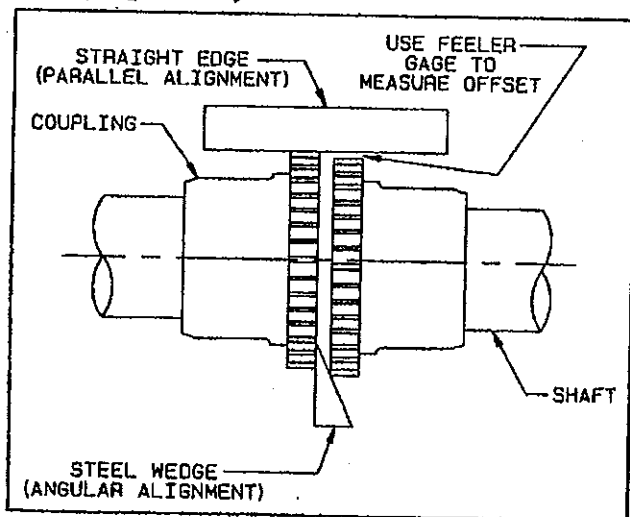

Figure 2
1. Align the coupling to within the manufacturer's limits for parallel and angular misalignment (see Figure 2). A dial indicator can also be used for alignment where greater precision is desired. Adjustments should be made by moving the motor to change shaft angle, and by the use of foot shims to change motor shaft height. Do not move the fan shaft or bearing.